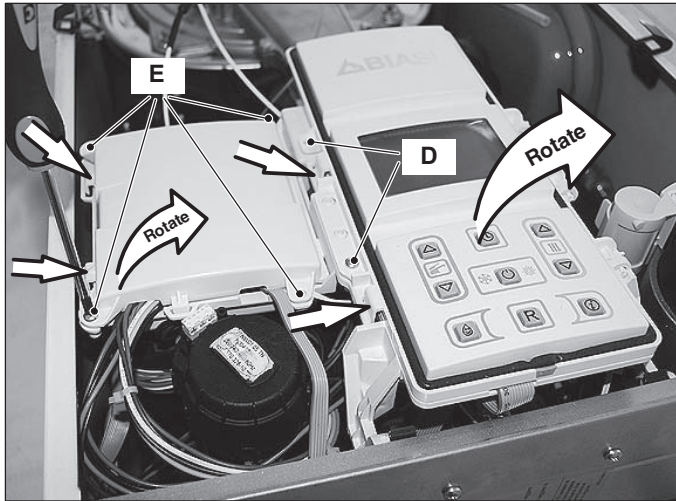

Figure 2.5
- 2 Unscrew the screws D and E (Figure 2.5).